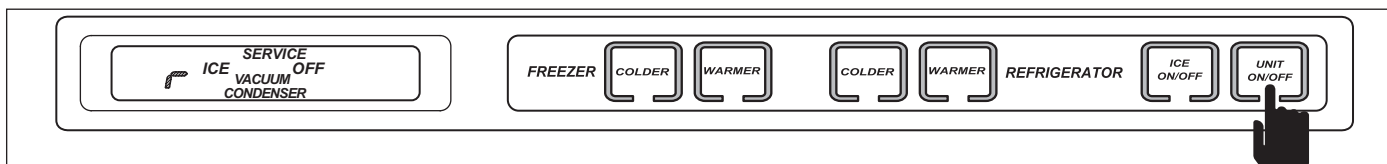

Figure 3-28. Press UNIT ON/OFF Key to Display Location of Thermistor
4. Press the UNIT ON/OFF key at this time to display the location of the thermistor being read, "r" represents the refrigerator compartment (See Figure 3-28).